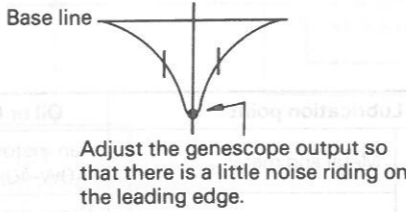

Fig. 11
6. Feed in a weak signal from the genescope. Adjust T201, T203 for maximum gain and the waveform of Fig. 11.